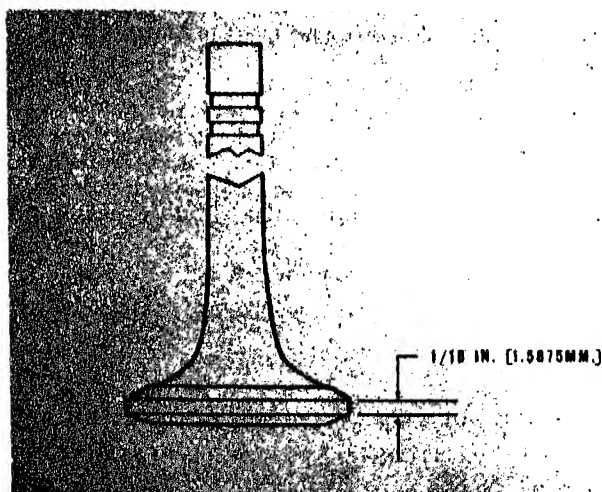

Fig. 2-5-1. Minimum valve head rim thickness
1. Heads are cupped, cracked, pitted or worn too thin to re-grind within limits. Check valve head rim thickness (A, Fig. 2-5-1); it should be a minimum of $\frac{1}{16}$ in. [1.5875 mm].
Check rim thickness as shown in Fig. 2-5-1. If rim is less than $\frac{1}{16}$ in. [1.5875 mm], valve is not suitable for use because of danger of burning and cupping.